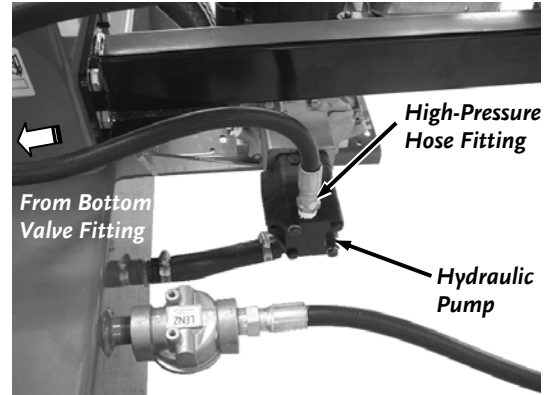

Figure 19
18. Wrap the threads of the high-pressure hose fitting with a hydraulic pipe tape and attach it to the hydraulic pump (**Figure 19**). Securely tighten the high-pressure hose fitting with a 10-inch crescent wrench.